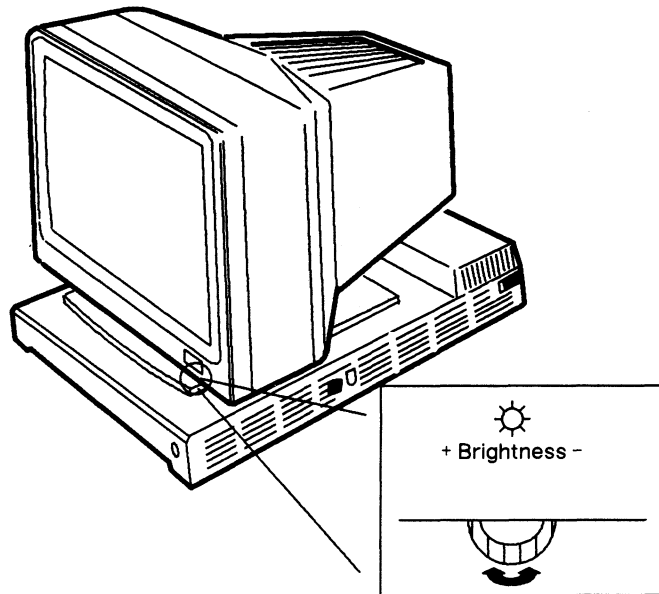

Figure 4-1 Monitor Brightness Dial
5. Make sure the screen intensity on the monitor is adjusted brightly enough so you can see messages on the screen. (Try temporarily rotating the brightness dial shown in Figure 4-1 clockwise to the maximum setting.)